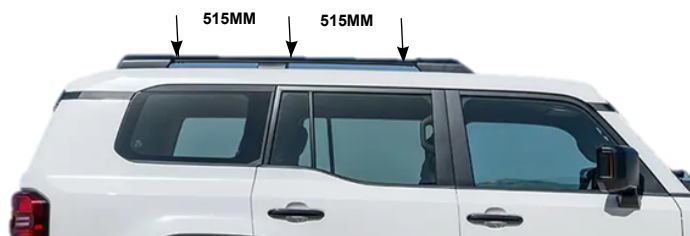

FIG 4
5. Place the Cross Bars evenly over on the roof rails, middle cross bar is mounted in front of the centre mount (Fig 4).
7. As you push the Bottom Strap upward, introduce the Star Head Bolt through the End Support & Straps. Using the T-Handle provided, fasten the Straps together - ensuring they are fixed in the correct positions along the rail as specified in (Fig. 4) on the first page. Gradually tighten bolts alternatively ensuring Straps are properly engaged, until even tensioning is achieved.